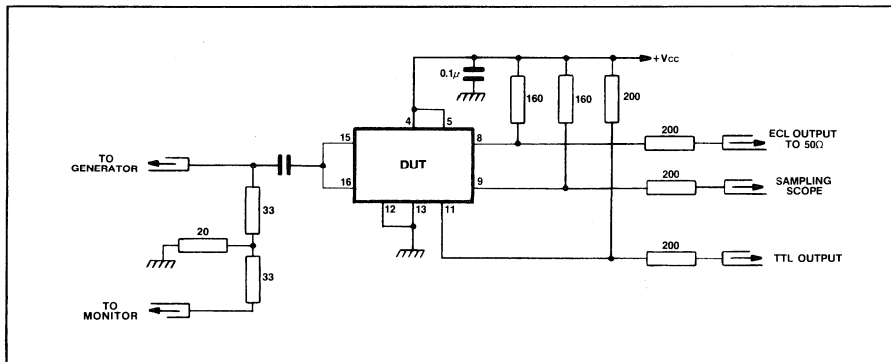

Fig.5 Test circuit
3. The test configuration for dynamic testing is shown in Fig.5